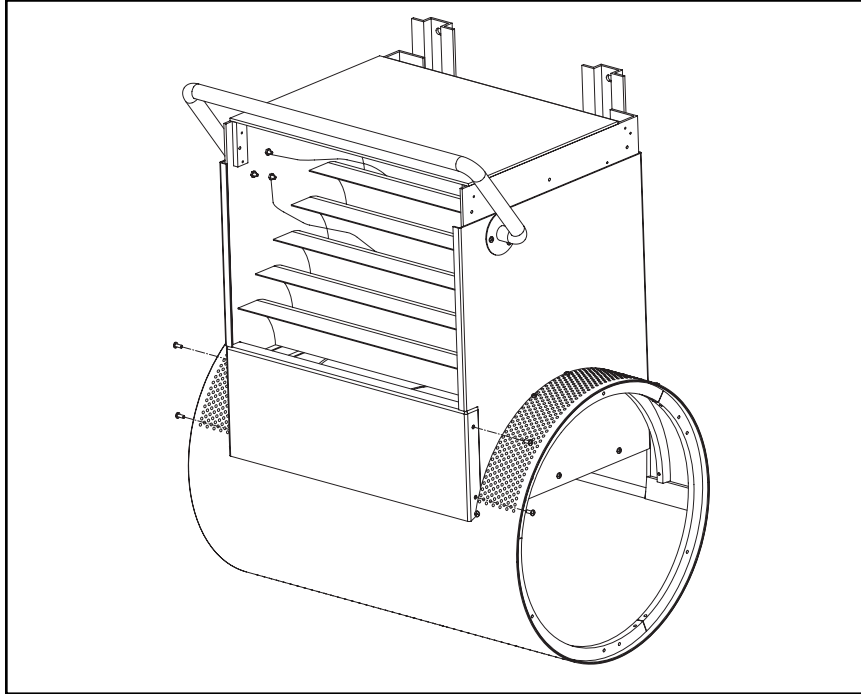

Fig. 6.9
6.11 Reattach the throat to the upper housing. Again, there will be 2 screws on either side of the throat (Fig 6.9).